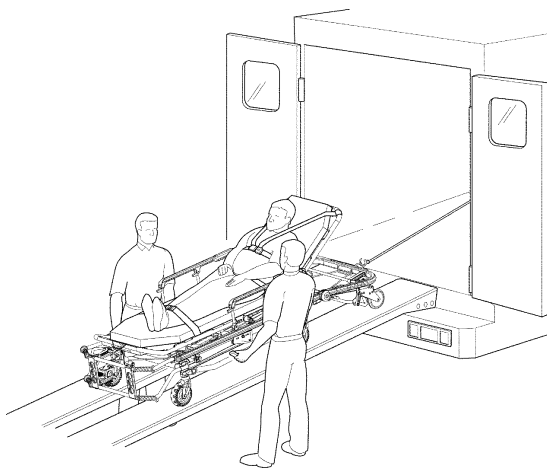

Figure 19 – Loading and unloading the cot with the tow package option
2. Make sure that the length of the loading ramp is at least 12 ft (3.7 m). Verify that the ramp can support the weight of the cot, patient, and equipment (Figure 19).